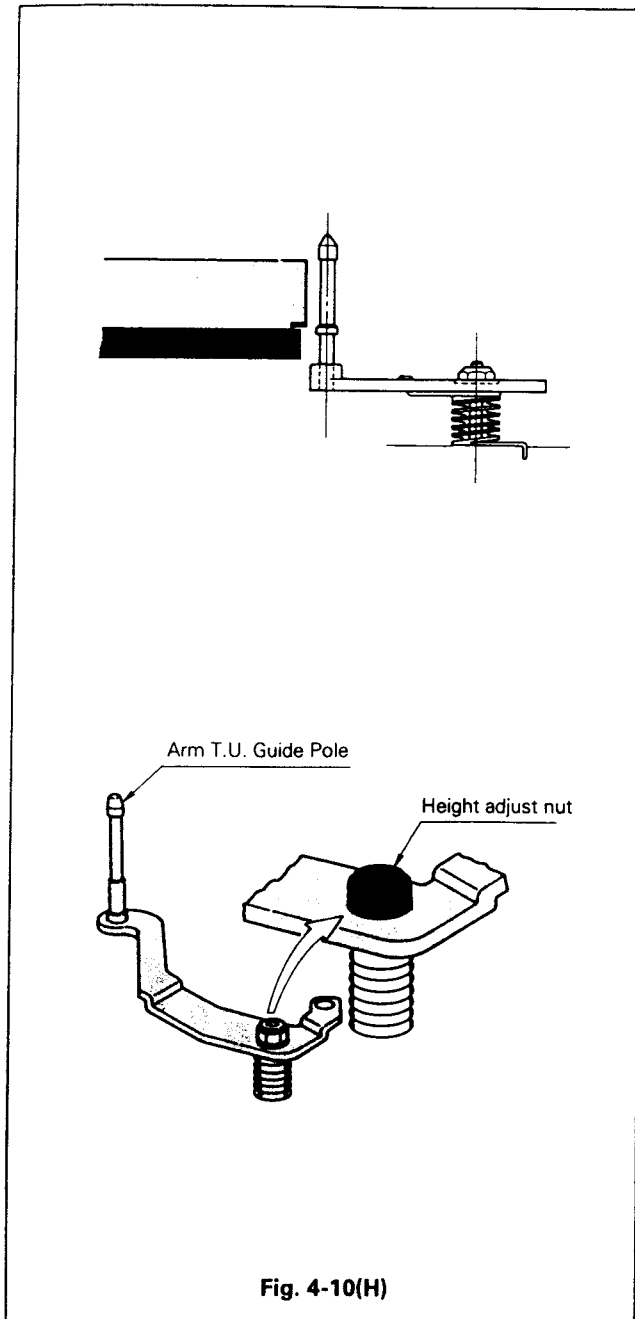

Fig. 4-10(H)
- B. Rotate the audio/control head inclination adjusting screw (C) and adjust so that the tape will run smoothly at the take-up guide pole as illustrated in Fig. 4-10(C) (E).
- D. Should the tape be creased or twisted at the arm take-up guide pole, rotate the height adjusting nut until the crease or twist on the tape disappears. (Refer to Fig. 4-10(A) and Fig. 4-10(H)).